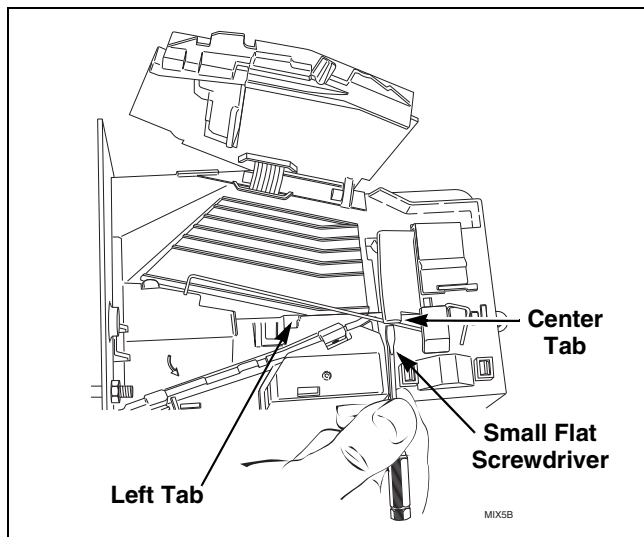

Figure 9
- (12) Use a small flathead screwdriver to push spring under center tab. Refer to *Figure 9*.